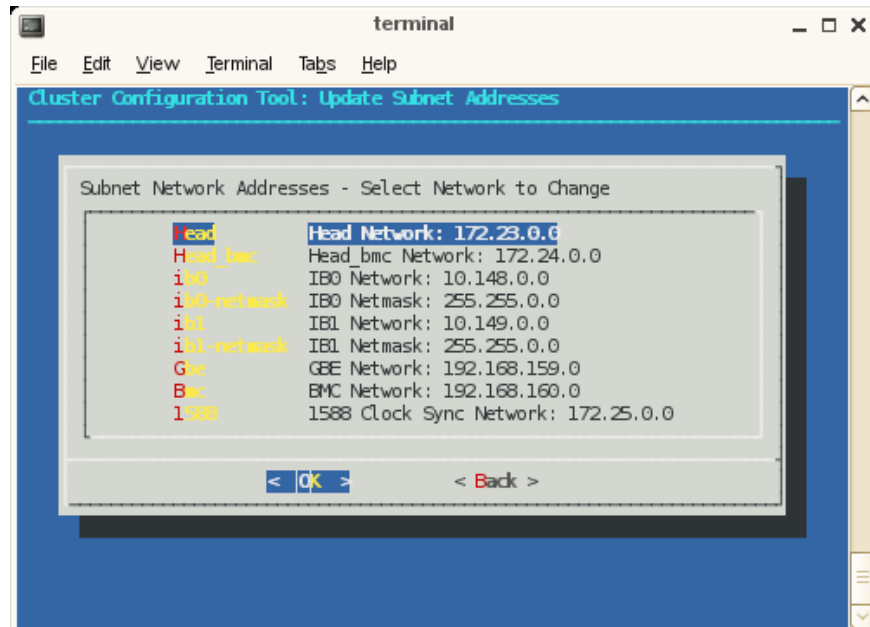

Figure 2-26 Update Subnet Addresses Screen
11. The **Update Subnet Addresses** screen appears, as shown in Figure 2-26 on page 69.